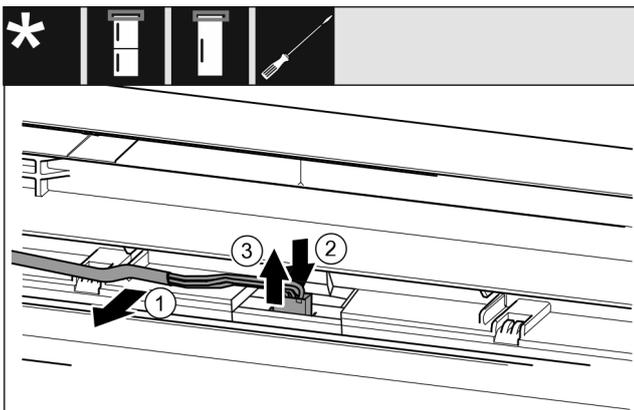

Fig. 23 Fridge/freezer combinations / freezers / refrigerators*
- ▶ Release the cable Fig. 23 (1) from the guide in the door carefully.*
- ▶ Push the tab Fig. 23 (2) behind the plug backwards.*
- ▶ Pull the plug Fig. 23 (3) out upwards carefully.*